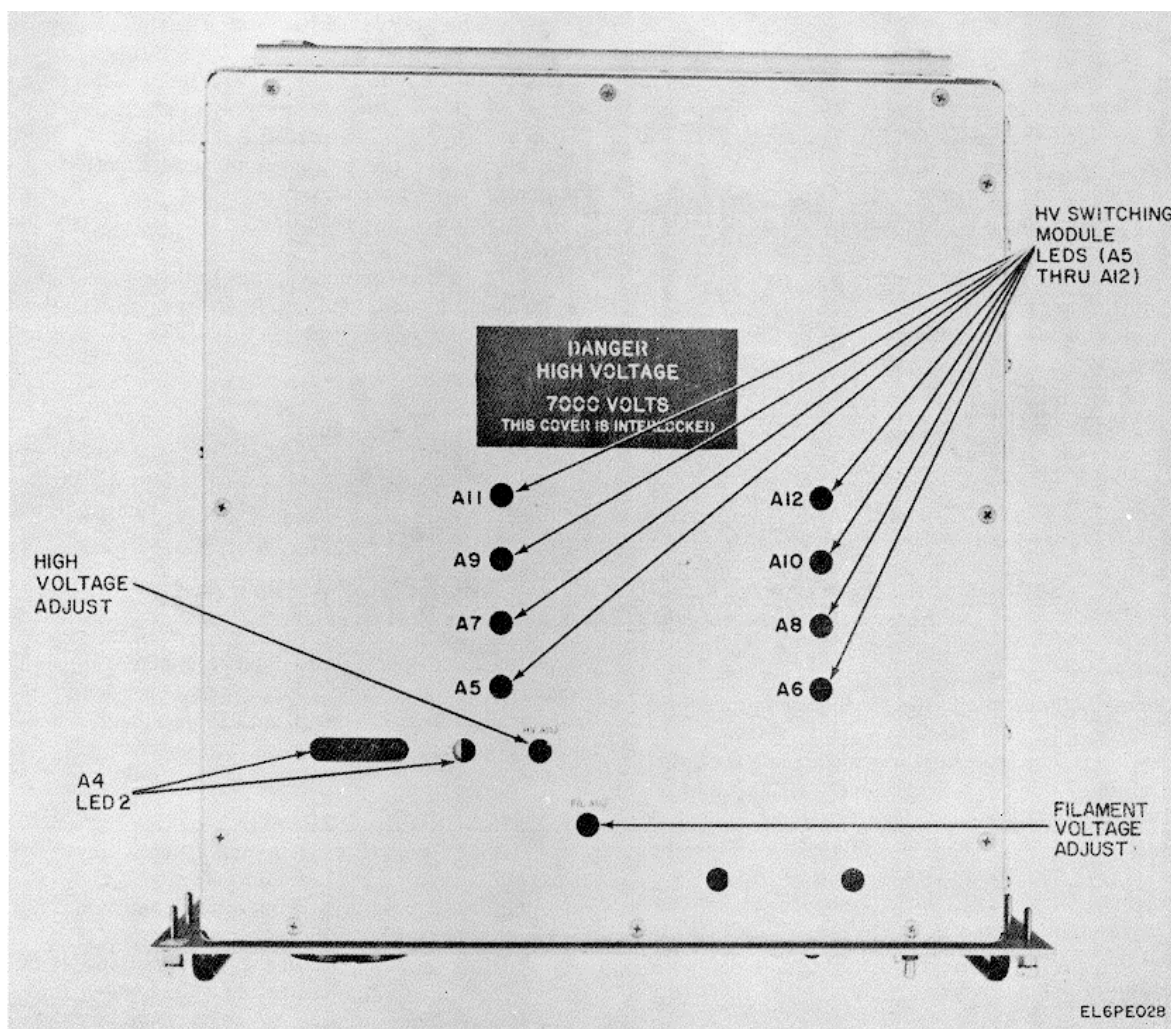

Figure 5-2. Power Supply, Module LED Indicators.
The following procedures are based upon observation of an indication. Each procedure is based on the kind of fault indicated and it is not necessary to perform other procedures unless an applicable fault indication has occurred (fig. 5-2).
(17) See figure 5-2. On the pulse synthesizer module A4 (A4 LED) observe the fifth and sixth (last) LED indicators, counting from the left.
(18) If either one indicator, or both, is off, remove and replace the pulse synthesizer module A4 (para 5-20d).
(19) If both indicators are on, remove and replace the power supply low voltage module A2 (para 5-20d).
(20) If the 6 V FIL X1 indication in step (12) above was not correct (but not 8 volts or greater) remove and replace the power supply filament module A14 (para 5-20h). If the 6 V FIL x 1 indication in step (12) above was 8 volts greater refer to step (21) below.
(21) If the 6V FIL x 1 indication in step (12) above was 8 volts or greater and the BEAM V X1000
(22) On the power supply, place the OPERATE/STANDBY switch to the STANDBY position.
(23) Place the START and BLOWER circuit breakers to the OFF position (the AC POWER indicator will remain illuminated).
(24) Place the MONITOR switch to the BEAM V X1000 position. Observe on the MONITOR meter that the beam voltage has decayed to zero volts.
(25) On the front panel of the PA, loosen the thirteen quarter-turn fasteners on the access cover and remove the cover.
(26) Using a multimeter set to the X1 OHM scale, measure the resistance between the klystron heater and cathode terminals.
(27) If the resistance measured in step (26) above was greater than 3 ohms, remove and replace the klystron (para 5-18a and f).
(28) If the resistance measured in step (26) above was less than 3 ohms, an open circuit exists in the klystron filament wiring between the PA heater/cathode terminals and the power supply drawer or the power supply filament module A14. Refer the problem to the next higher level of maintenance.
(29) If all the indications in step (12) above were correct except the BEAM V X1000 indication was below normal value, perform steps (30) through (34) below.
(30) Repeat steps (15) and (16) above.
(31) See figure 5-2. On the pulse synthesizer module A4 (A4 LEDs) observe the LED indicators.
(32) If any one or more of the indicators in step (31) above is off, remove and replace the pulse synthesizer module A4 (para 5-20d).
(33) Observe the LED indicators on the high voltage switching module A5 through A12 (A5 LED through A12 LED, fig. 5-2).
(34) If any one or both of the indicators in step (33) above is off on a module, remove and replace that module (para 5-20e).
(35) If all the indications in step (12) above were correct, place the PA MONITOR switch to the upper scale X15 WATTS position (black stencil).
(36) On the PA, unlock and then adjust the OUTPUT LEVEL control for an approximate midscale, or lower, indication on the MONITOR meter.
(37) Place the power supply MONITOR switch to the BODY MA X5 position. Observe the MONITOR meter for an indication of 6 (30 ma) or lower.
(38) On the PA, adjust the OUTPUT LEVEL control to slowly increase the output level while observing both MONITOR meters.
(39) If the power supply MONITOR meter indication BODY MA increases above normal and the PA MONITOR meter output level does not increase or increases only slightly, remove and replace the klystron (para 5-18e and f).